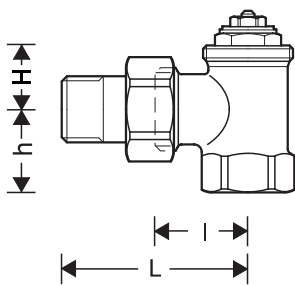

Fig. 6. Angle
| Angle to EN215 (D) (Fig. 6) | 10 | • | 1.70 (1.99) | Rp 3/8" | 26 | 52 | 22 | 20 | — | V2000EUB10 |
| Angle to EN215 (F) (Fig. 6) | 10 | • | 1.80 (2.11) | Rp 3/8" | 24 | 49 | 20 | 21 | — | V2020EUB10 |